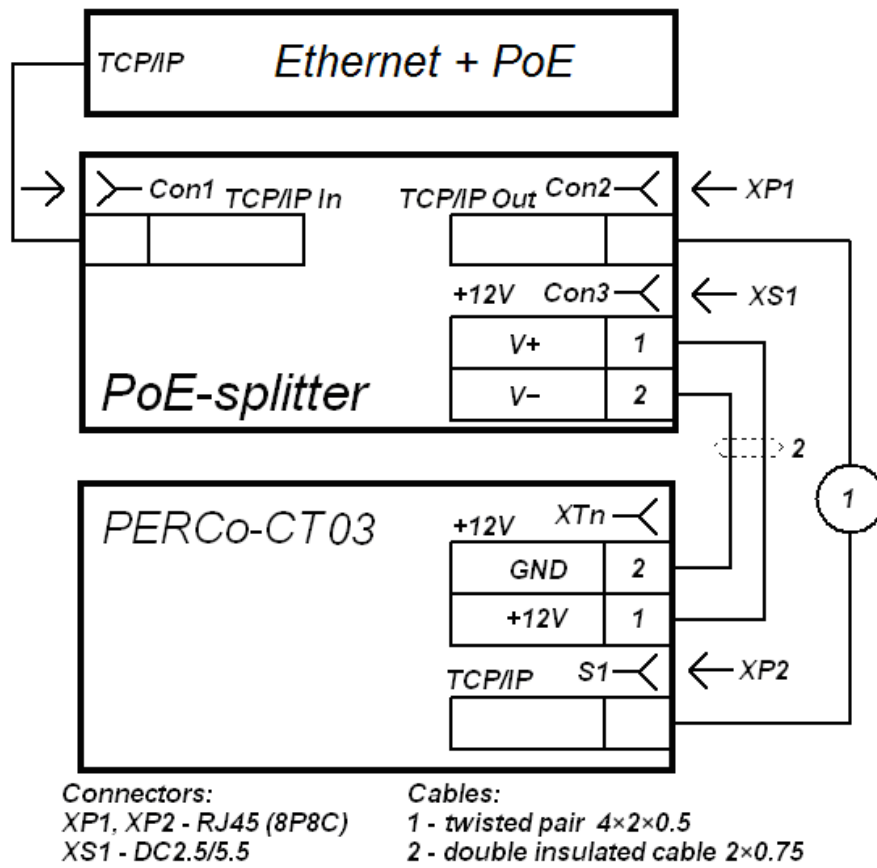

Figure 15. IP-Stile controller connection scheme
3. Connect power supply circuit of controller and operating device, controlled by it, to **Con3** connector of splitter. Connection schemes are given on Figure 15. (connection plug is included into delivery set of splitter).